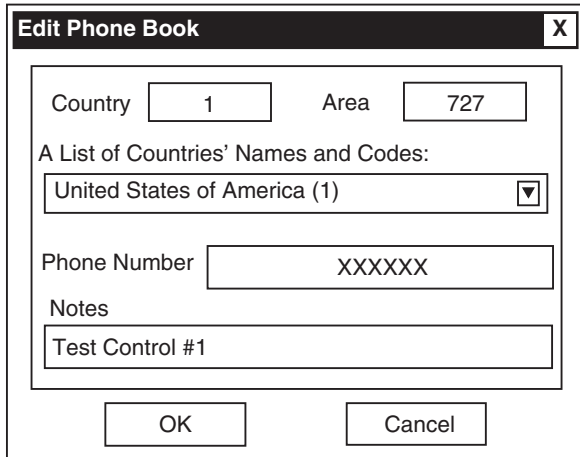

Figure 9-11 Edit Phone Book Dialog Screen
- b. Select **Add Number**, TapTalk will display the **Edit Phone Book** dialog screen (Figure 9-11).